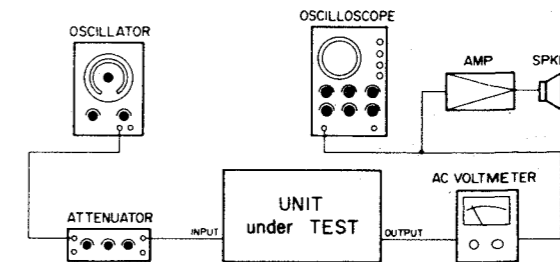

FIG. 25. SET-UP FOR LEVEL & FREQUENCY RESPONSE CHECKS
1. Connect test equipment to the channel 1 input and output jacks of the deck as shown in Fig. 25.